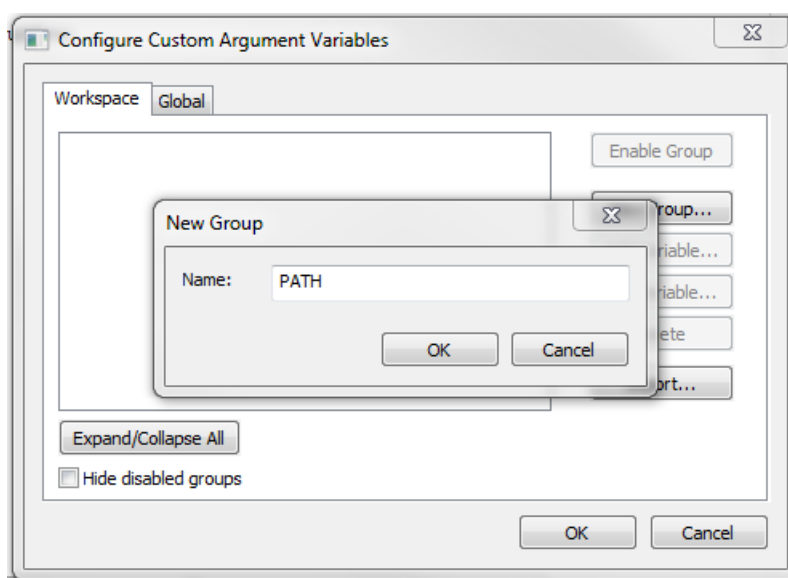

Figure 1-32. New Group
2. Click the New Group button, and another dialog appears. In this dialog, type the name of the group PATH, and click OK. See Figure 1-32.